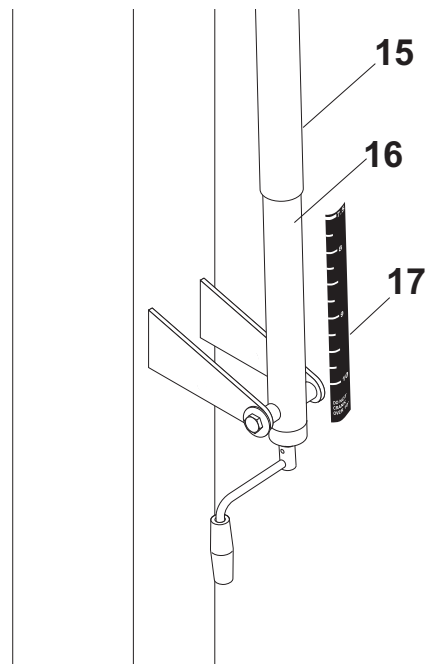

Figure 16
28. Adjust unit to 7-1/2 feet. Use a tape measure to measure from the top of the rim to the playing surface. Stick Height Decal (#17) to back of actuator (#16) with the "7.5" mark aligned with bottom of Actuator Sleeve (#15). See Figure 16.